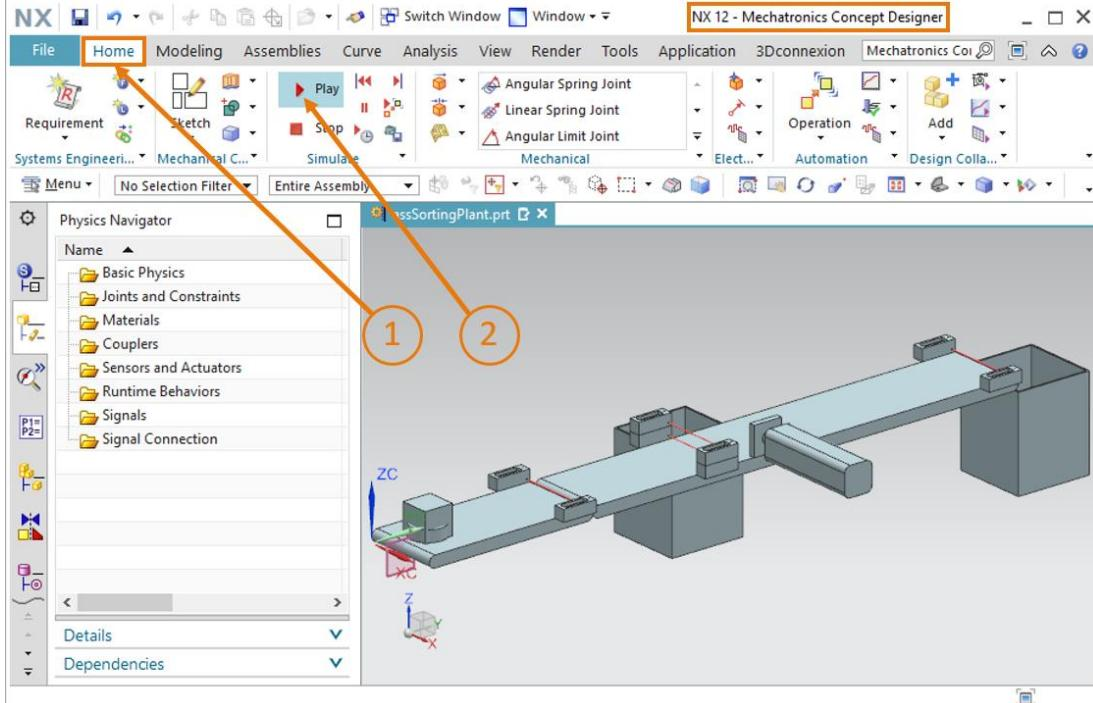

Figure 8: Starting a simulation in MCD
- You can then see in the header that the "Mechatronics Concept Designer" application is active. Go to the "Home" tab (see Figure 8, step 1). A development environment appears, which you were already introduced to in Chapter 4.2. Click the "Play" button  in the "Simulate" menu group to start the simulation of the sorting plant (see Figure 8, step 2).